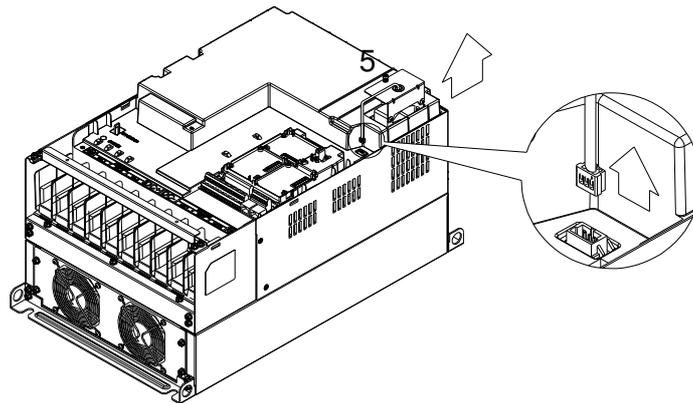

Figure 3
3. Loosen screw 5 (figure 3) and disconnect fan power and pull out the fan. (As shown in the enlarged picture 3) Screw 5 『Torque :10~12kgf-cm (8.6~10.4lb-in)』